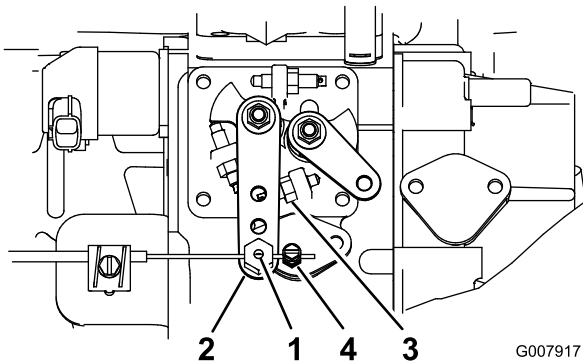

Figure 63
2. Loosen the throttle cable connector, on the throttle cable, next to the injection pump lever (Figure 63).
3. Hold the injection pump lever arm against the high idle stop (Figure 63).